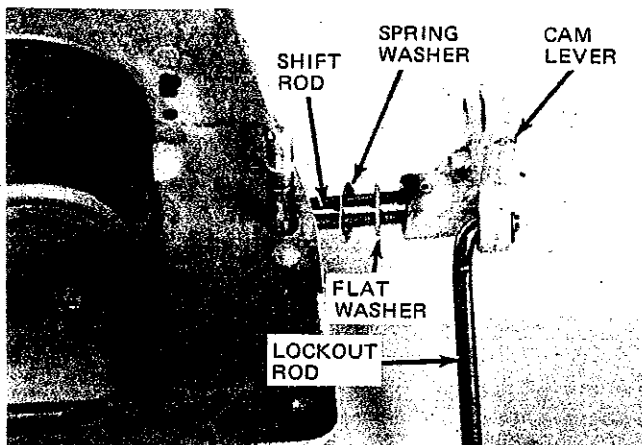
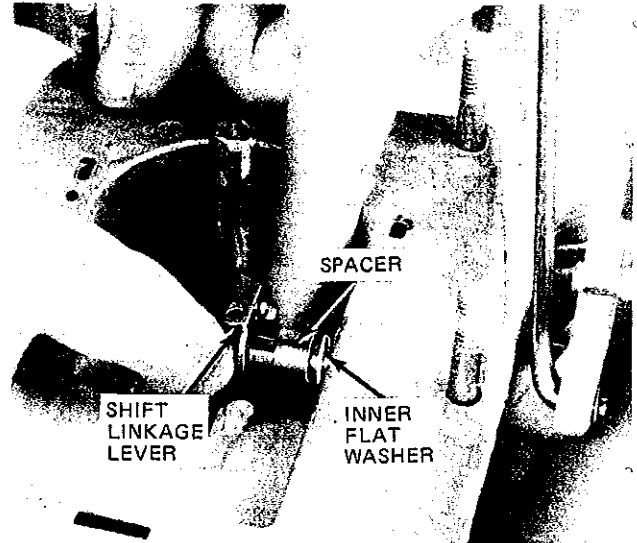

Figure 25
Figure 26
- (1) Inspect center shift rod bearing in adaptor housing for damage or wear, replace if necessary.
- (2) Install a new center shift rod "O" ring in the adaptor housing.
- (3) Install exhaust deflector and gasket on adaptor housing.
- (4) Assemble shift rod, cam lever, lock-out rod, flat washer and spring washer, and install in adaptor housing (Figure 25).
- (5) Install the rubber mounts in the carrier handle.
- (6) Install the adaptor housing in the carrier housing and secure with three flat washers and flange nuts.
- (7) Install a new gasket on the column and assemble the adaptor housing and carrier handle to the column with six socket head screws.
- (8) Install swivel bracket assembly (Para. 13).
- (9) Install the inner flat washer, spacer and shift linkage lever on the center shift rod. Install and tighten the screw in the shift linkage lever (Figure 26).
- (10) Install the lower adaptor plate and gasket on the exhaust deflector.
- (11) Install the water tube packing, flat washer and hex nut.
- (12) Assemble the link rod and hitch pin to the shift lever cam.